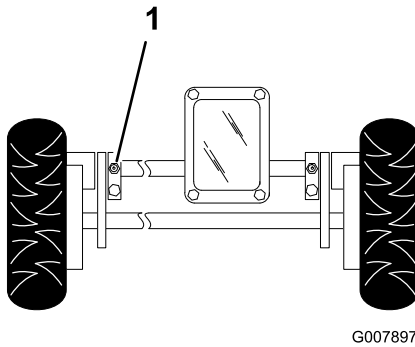

Figure 31
1. Wipe the grease fittings with a clean rag (Figure 31).